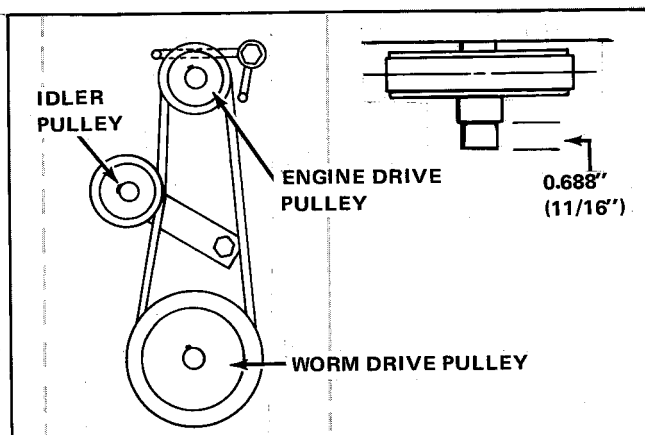

Figure 20. Model 1003 Pulley Alignment
For model 1003 tillers, the engine drive pulley is properly aligned when it is 0.688 inch, or 11/16 inch (17.4 mm), from the end of engine shaft (see figure 20). If not, loosen engine pulley setscrew and adjust as required. Be sure to retighten setscrew.
2. Check pulley alignment (see figures 20 and 21).